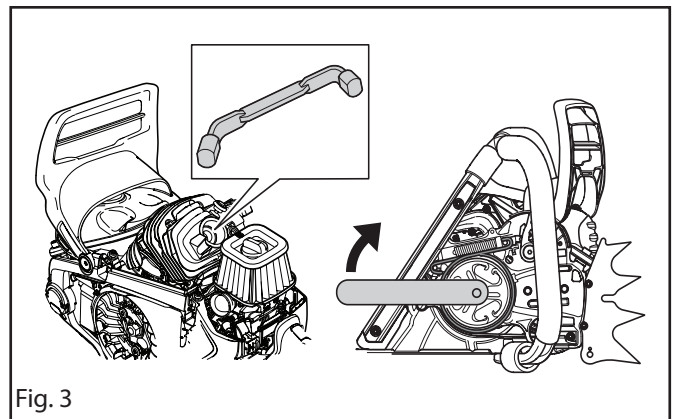

Fig. 3
5. Remove the spark plug and fit the piston stop. Remove the clutch with the clutch tool. See figure 3.
**NOTE!** Left-hand thread. Screw in the direction of the arrow as shown in figure 3.